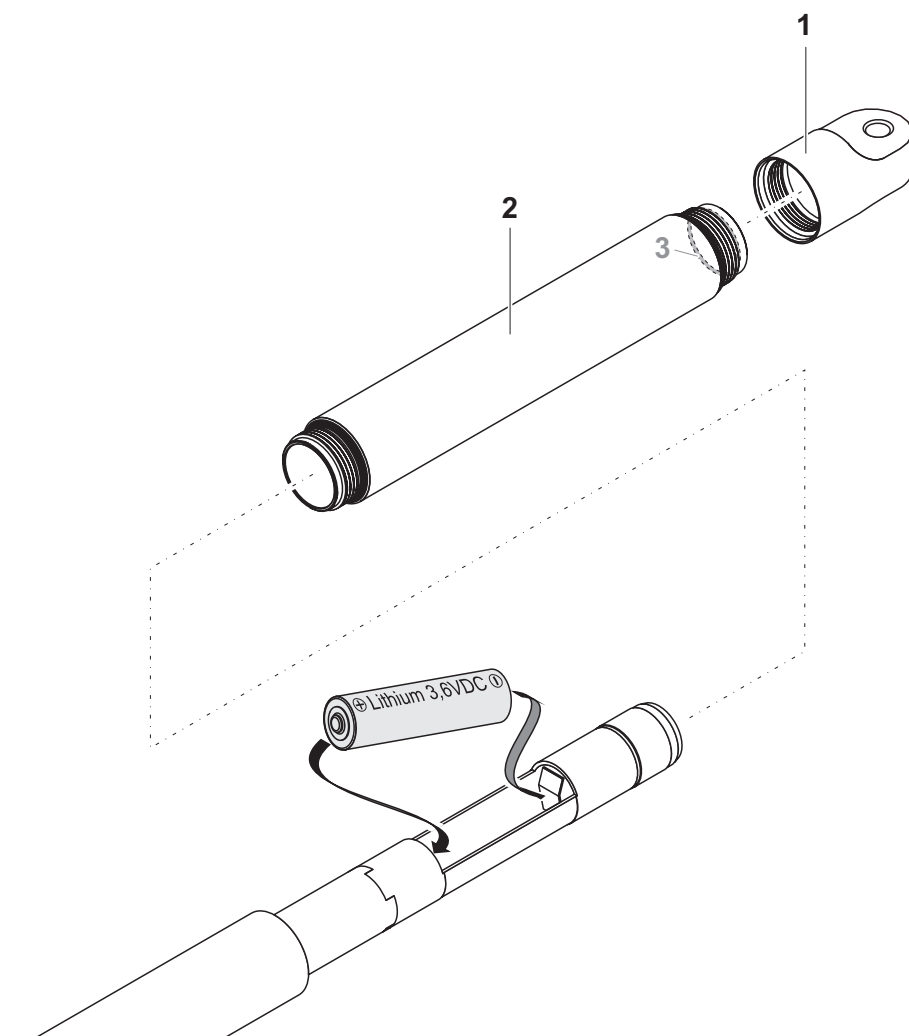

Fig. 3-1 Inserting the battery
1	Unscrew the cap (pos. 1 in Fig. 3-1).